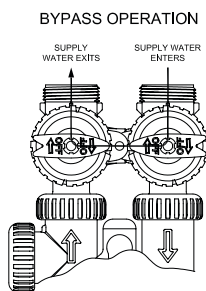

FIGURE 1
- Place the bypass valve in "BYPASS OPERATION". (Figure 1)
PLACING UNIT INTO SERVICE: Make sure the Bypass inlet and outlet valves connected to the control valve are to their closed positions (BYPASS OPERATION Figure 1). Turn on main water supply. Open a cold water faucet. This will clear the lines of any debris (solder, pipe dope, etc.) that may be in the line. Let water run at tap for a couple of minutes, or until clear. Turn off faucet.